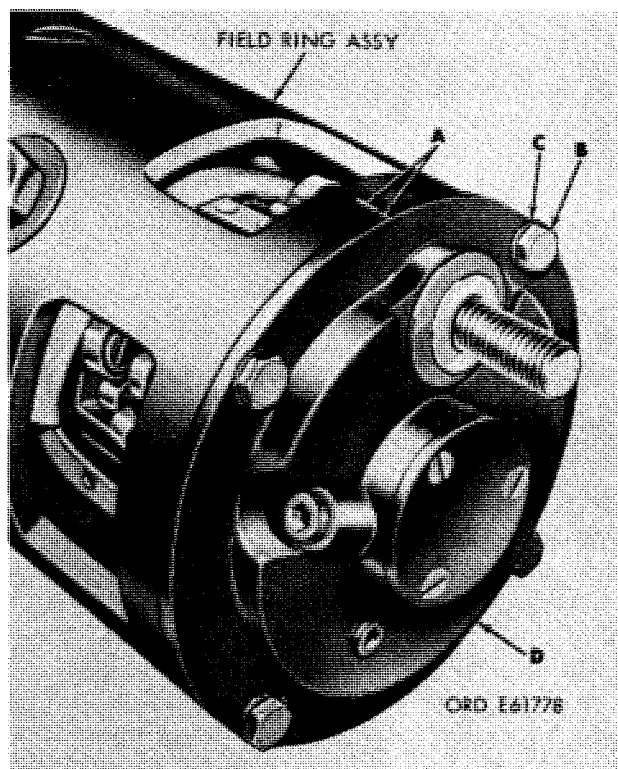

Figure 3-20. Removing or installing brush rigging assembly attaching parts.
d. Scribe an alignment mark (A, fig. 3-20) on end housing and field ring. Remove four hex-head screws (B) and lock washers (C). Pull brush rigging assembly (D) out of field ring assembly.